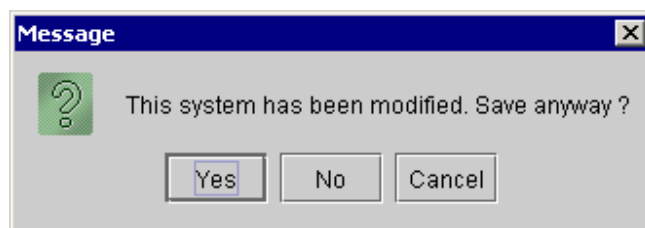

Figure 130 : Save system message
- If the system has been modified, a message (Figure 130) indicates that it has been modified and requests if it must be saved.